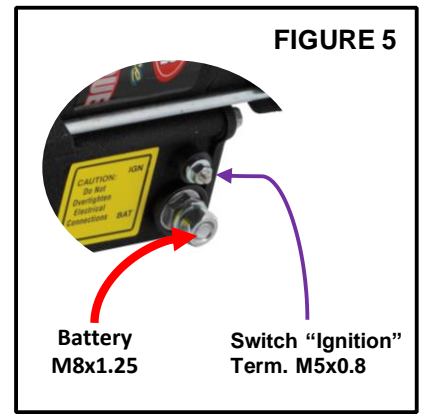
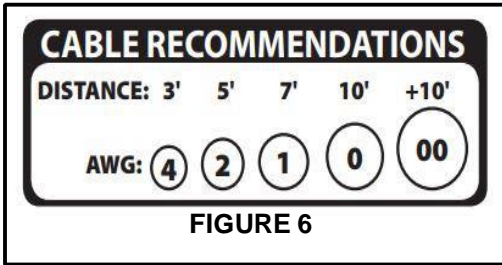

FIGURE 5
FIGURE 6
5) **WIRING CONNECTIONS:** Ensure power cable is sufficient size and in good condition (See Figure 6). Attach battery cable and starter ignition wire to corresponding post on solenoid (Figure 5).